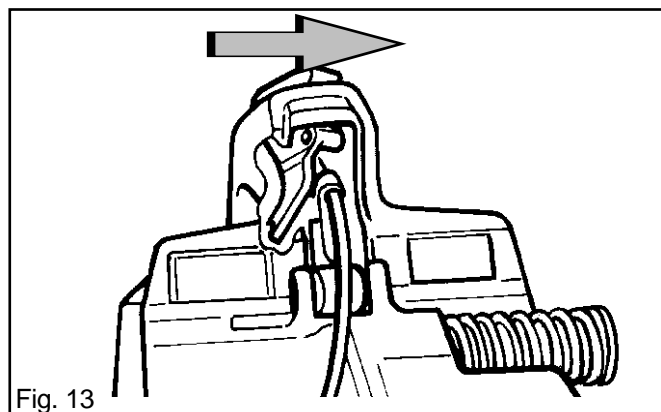

Fig. 13
3. Twist the throttle lock as shown in fig. 13 and lift it out of the hand grip together with the spring.
5. Twist the throttle lock so that the catch (E) can pass down beside the throttle lever inside the hand grip, as shown in fig. 13.
6. Press in the throttle lock pivot (A) with the help of a driver.